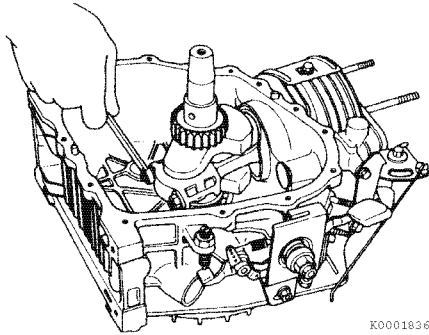

Figure 6-46
9. Remove the connecting rod bolts (**Figure 6-46**).